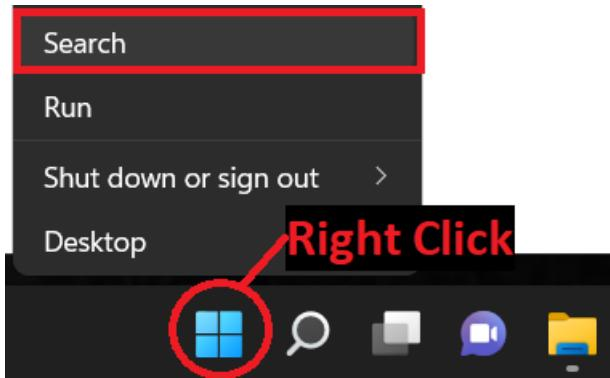

Figure 3: Windows search console
- 1- In Windows right click the Start menu (windows icon) and click on the search icon. See Figure 3